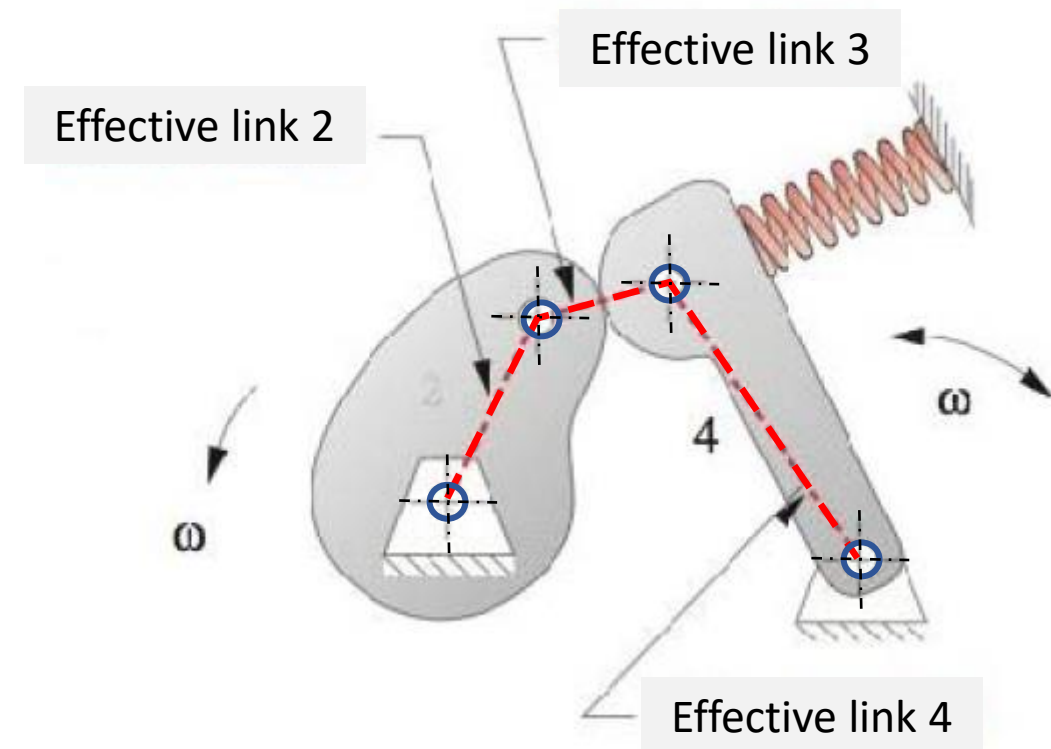

Figure 8-1. An oscillating Cam-Follower Effective Pin-Jointed Fourbar Equivalent.
- For instance, an oscillating cam-follower has an effective pin-jointed fourbar linkage as shown in Figure 8-1.